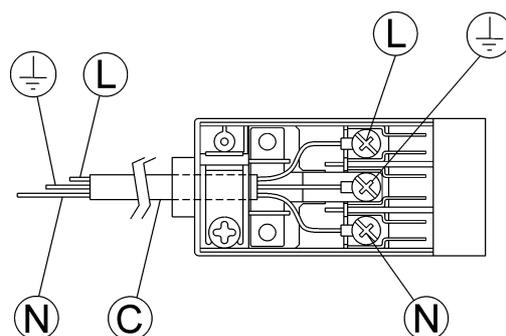

FIG. 11
- apply to the input cable "C", if unprovided (see fig. 11) a normalized plug adequate to the load indicated in the identification label. Connect the cables according to the scheme of fig. 11, making sure to respect the undermentioned correspondences: